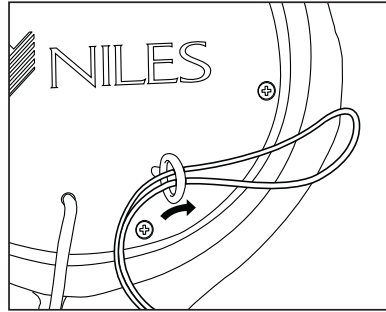

Figure 7.
2. Take the nylon security cable, supplied with the loudspeaker and fold it in half. Using the middle of the cable, feed it through the Security Attachment Eyelet as shown in **Figure 7**.